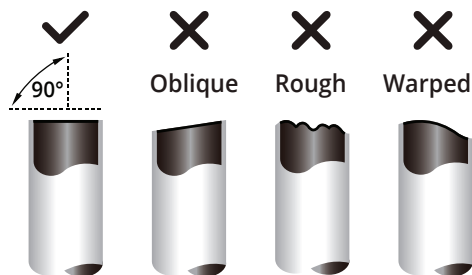

Fig. 6.3
3. Ensure the pipe is cut at a perfect 90° angle. Please refer to **Fig 6.3** below for cut examples.